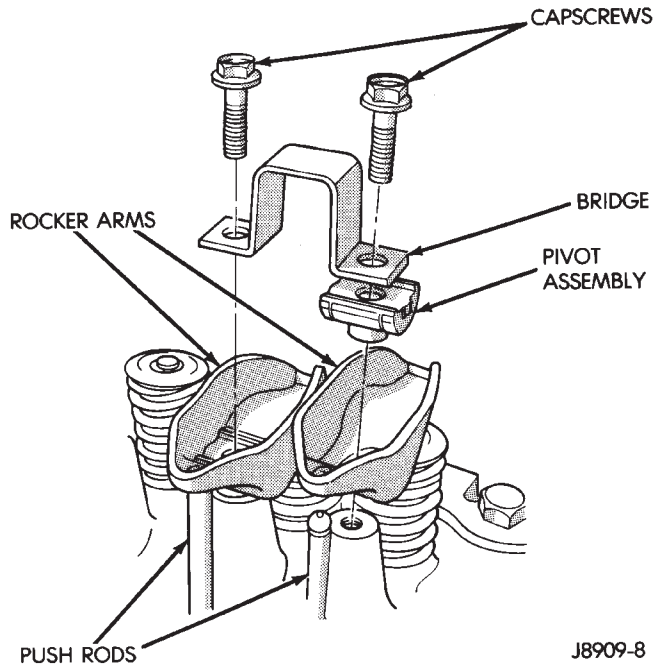

Fig. 33 Rocker Arm Assembly
- (2) Drain the coolant and disconnect the hoses at the engine thermostat housing. DO NOT waste reusable coolant. If the solution is clean and is being drained only to service the engine or cooling system, drain the coolant into a clean container for reuse.
- (3) Remove the air cleaner assembly.
- (4) Remove the engine cylinder head cover. (Refer to procedure in this section)
- (5) Remove the capscrews, bridge and pivot assemblies and rocker arms (Fig. 33).
- (6) Remove the push rods (Fig. 33). **Retain the push rods, bridges, pivots and rocker arms in the same order as removed.**
- (7) Loosen the accessory drive belt at the power steering pump bracket, if equipped or at the idler